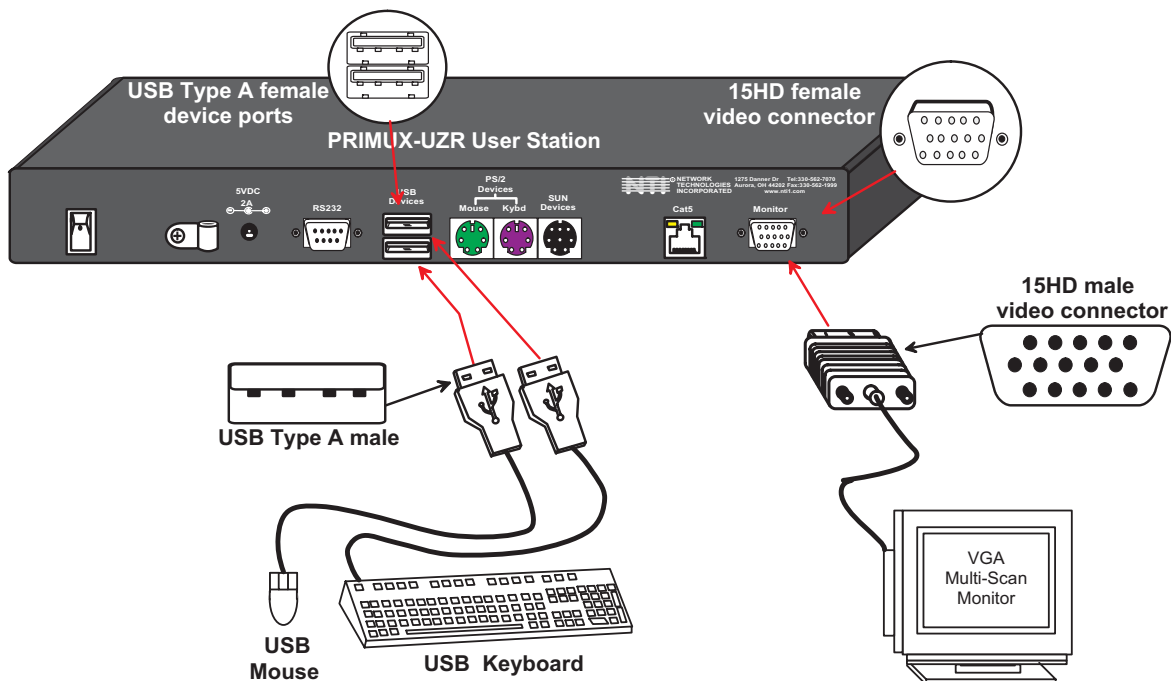

Figure 7- Connect extended USB components to the User Station
3. Connect the USB device(s) to the User Station (see Fig. 7).